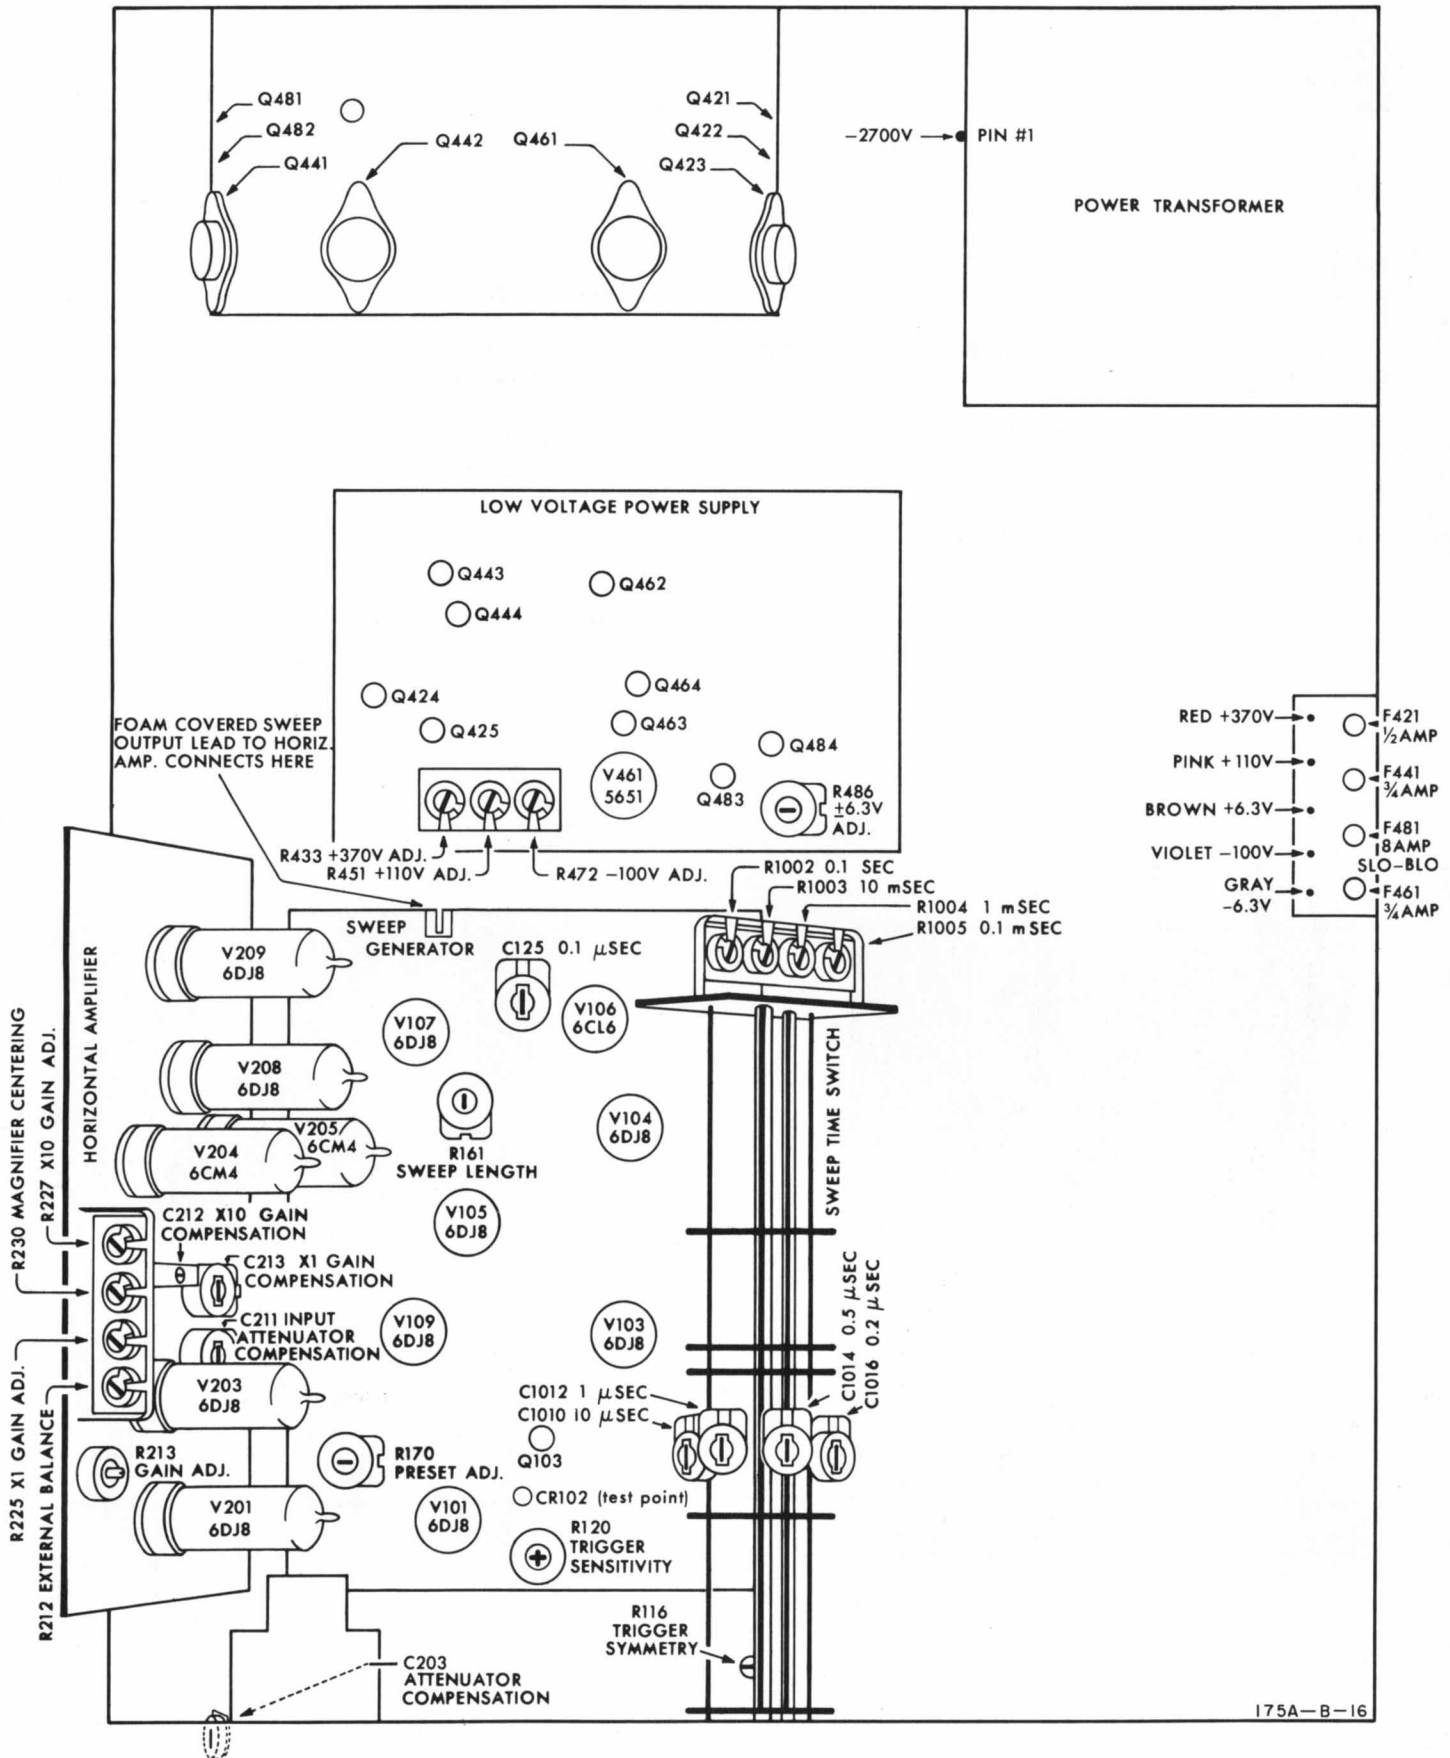

Figure 5-3. Adjustment and Component Locations, Bottom View
5-34. Refer to figure 5-3 for location of adjustments.
b. Measure output of each supply connecting the DC Voltmeter to the terminals on the printed circuit board mounted adjacent and at right angles to the supply fuses (see figure 5-3).
c. Set Voltmeter range to 30 volts and measure the voltage at pin 1 of the low-voltage power transformer (see figure 5-3).
5-41. Refer to figure 5-3 for location of adjustments.
a. Locate foam-covered wire which connects sweep generator output to horizontal amplifier input (see figure 5-3).
5-48. Refer to figure 5-3 for location of adjustments.